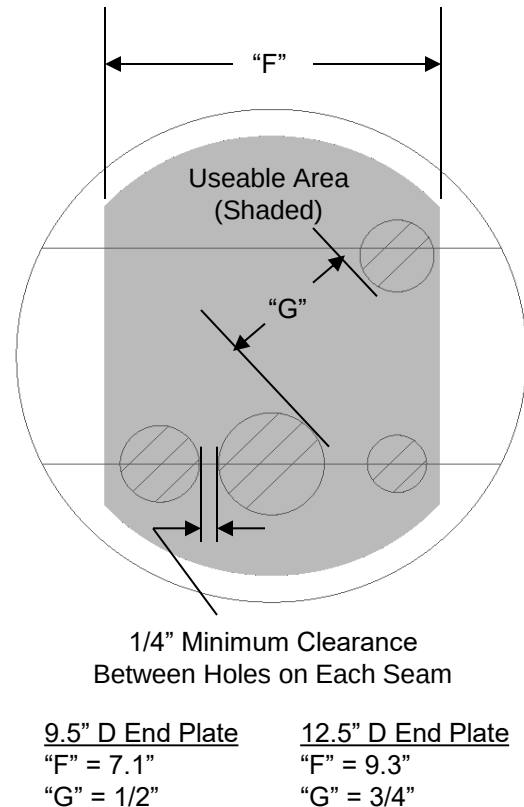

Figure 9
10.2 Determine the tube cable entry points and hole locations on End Plate. **See Fig. 9** for PLP recommended hole clearance dimensions.